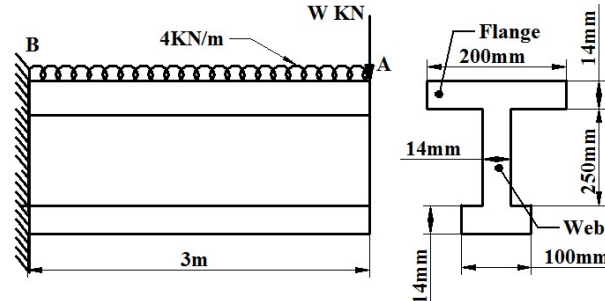

Figure 37
18. A cantilever has an I section with unequal flanges. The upper and lower flanges are (200mmx14mm) and (100mmx14mm) respectively. The web is (14mmx250mm). The cantilever is subjected to UDL of magnitude 4kN/m over its entire length and a point load  $W$  at the free end as shown in the **Figure 37**. Yield stress for the material of cantilever is 330MPa. Taking the factor of safety as 2. Determine the magnitude of maximum load  $W$  that can be applied.